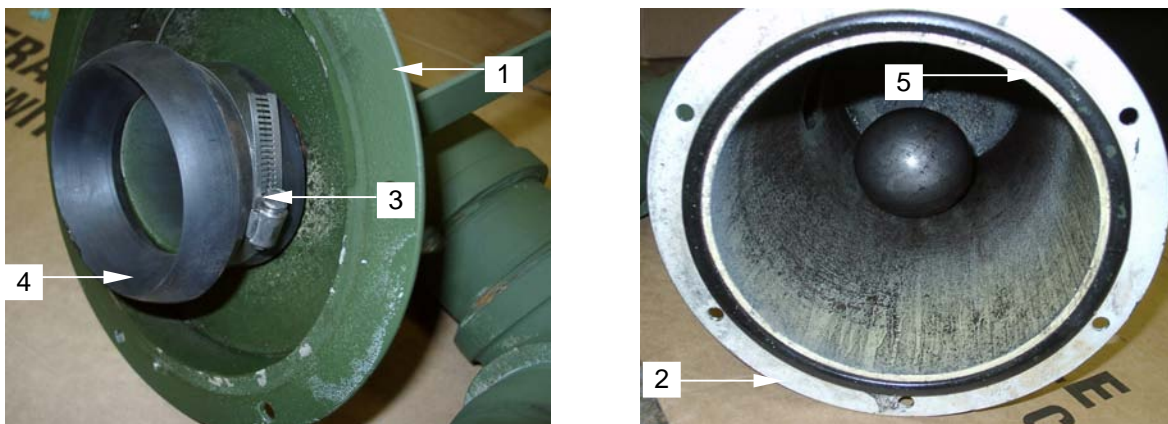

Figure 5. Removing Shutoff Seat and O-Ring from Moisture Trap
10. Remove lid (**figure 5, item 1**) from moisture trap body (**figure 5, item 2**).
11. Loosen hose clamp (**figure 5, item 3**) and remove shutoff seat (**figure 5, item 4**).
12. Remove O-Ring (**figure 5, item 5**) from moisture trap body.